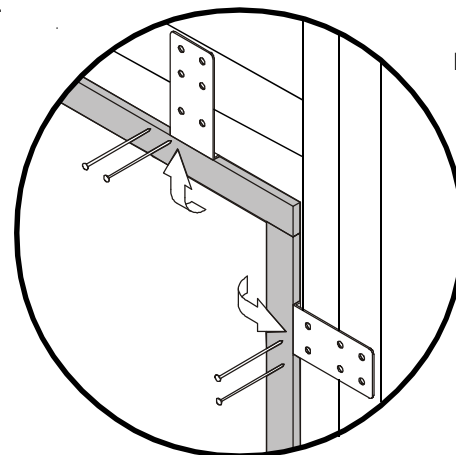

FIGURE 4
- 5) With unit installed bend clips and fasten to the interior rough opening frame using two 8 penny nails per clip (fig. 4). There are 3 locations available to fasten the clip to the rough opening and any extra material from the clip can be removed with a metal snip.